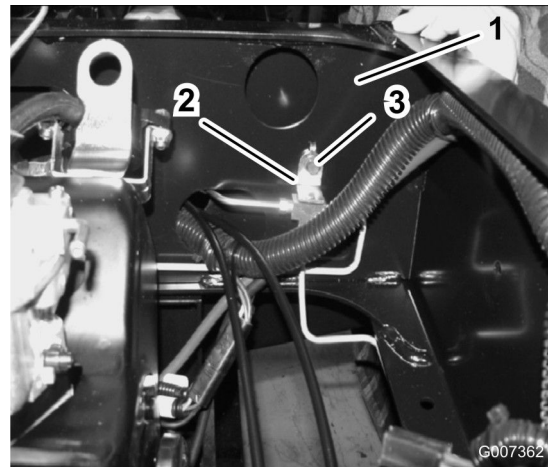

Figure 14
10. Install the “Tee” (87-3560) connection to the front right corner of the rear frame with a screw (1/4 x 1/2 inch) (Figure 14).